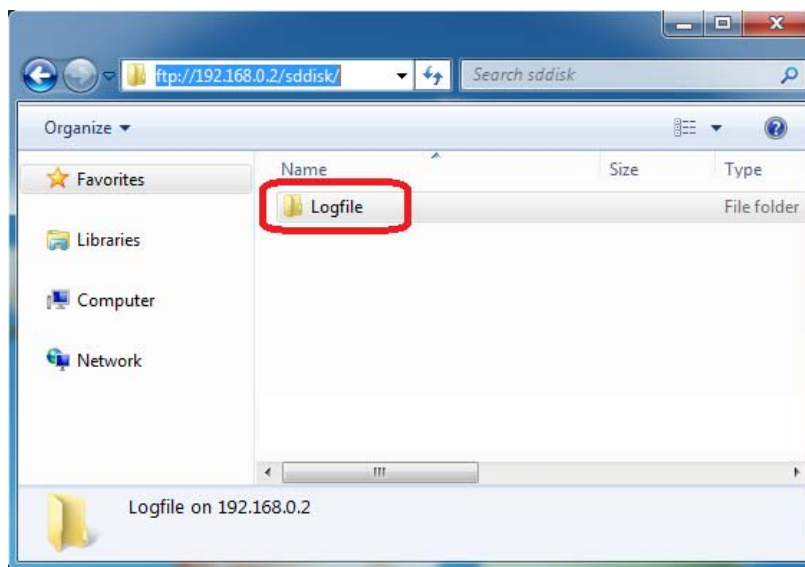

Figure 3-22 Newly created “Logfile” directory in the “sddisk” directory
- Enter a name for the directory you are creating (in the example in Figure 3-22 “Logfile”).